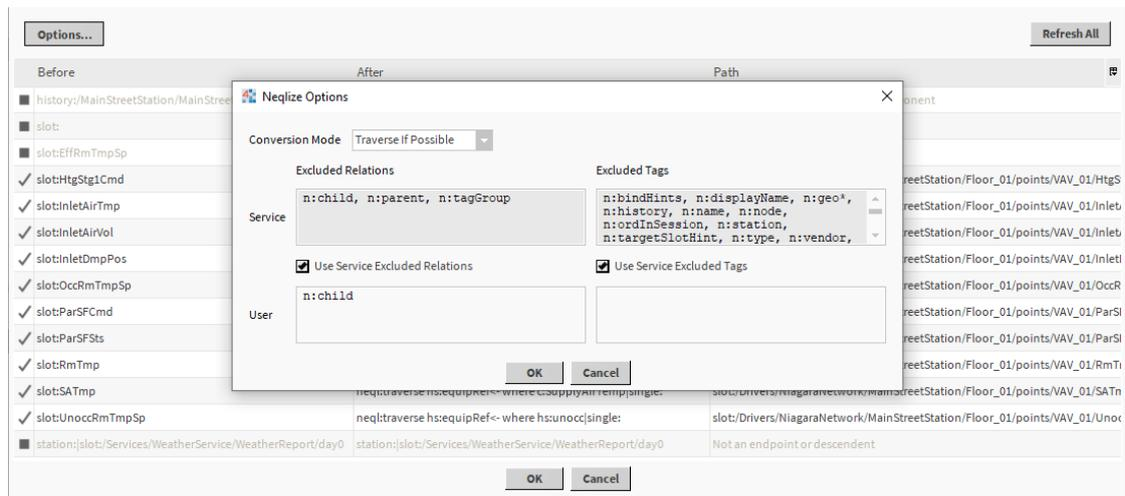

FIGURE 3. NEQLIZE OPTIONS DIALOGUE
- ▶ Neqlize Options launches a dialogue for specifying the conversion mode. From this menu, you can also exclude specified relations and tags that were utilized for the Neqlize Ords feature (Figure 3).